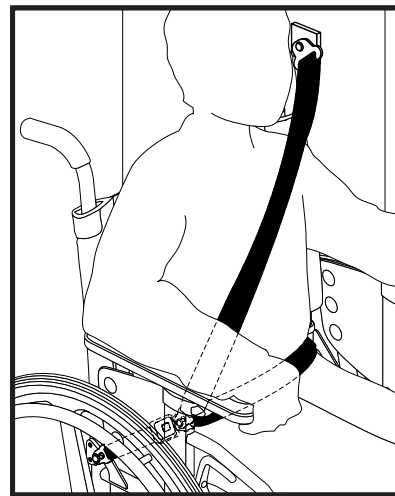

Figure 7. Upper-torso Belt Placement
- Place the upper-torso belt across the middle of the shoulder and the center of the chest, and connect to the pelvic belt near the hip of the wheelchair occupant. See figure 7.